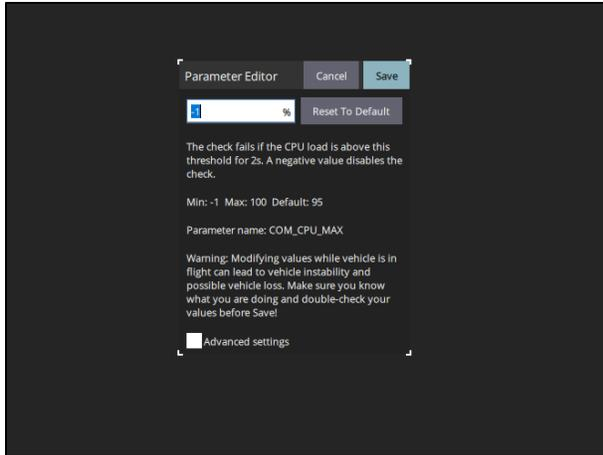

Figure 69 Updating the COM_CPU_MAX parameter
h. **Parameters:** An example is shown in **Figure 69**. Also configure the following parameters: